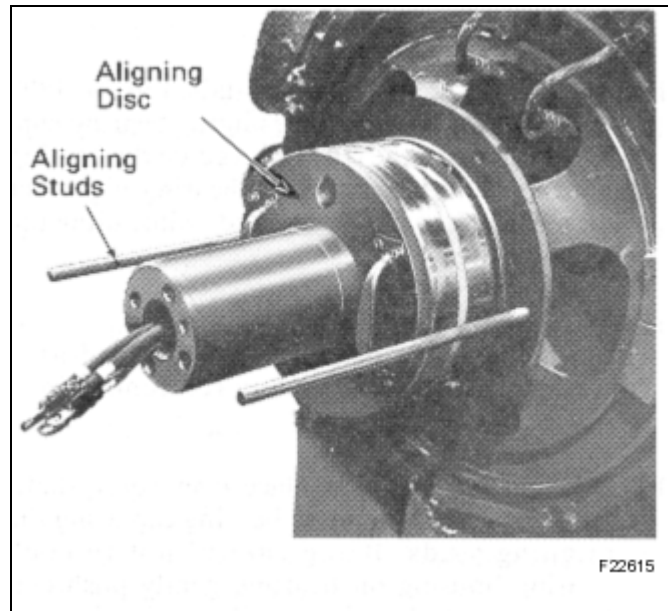

Figure 39 Applying End Housing to Rotor Assembly
17. Insert two 1/2"-13 aligning studs, Figure 35, 180° apart in the threaded holes in the bearing cap. The purpose of the studs is to guide the bearing housing to the bearing cap. A bearing alignment disc, Figure 39, may also be used in installing the end housing.